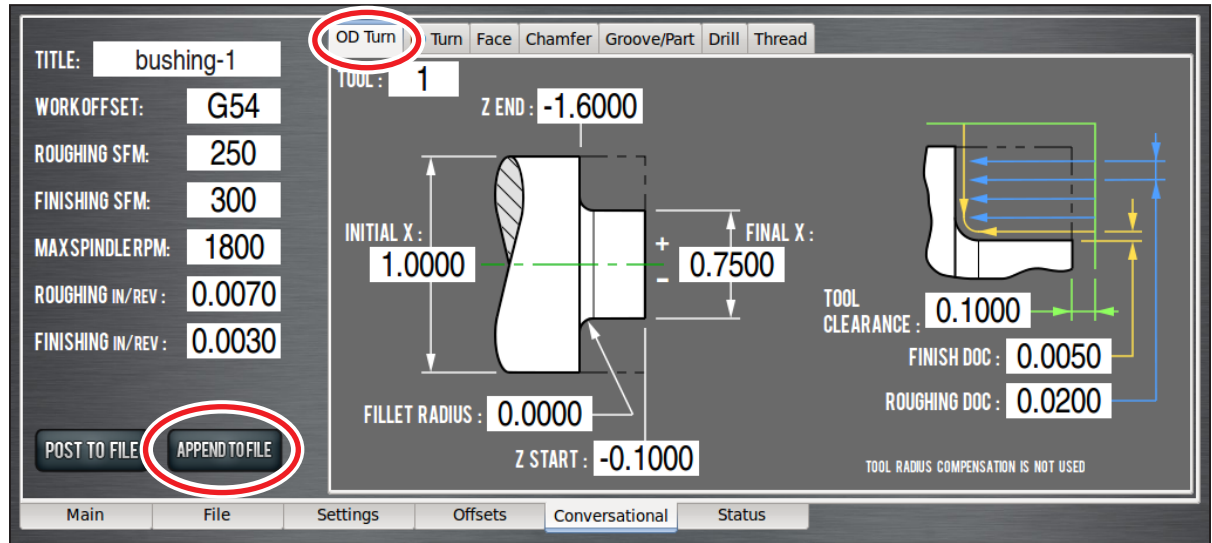

Figure 4.26
1. Click on *OD Turn* tab on the *Conversational* screen. Enter values shown in **Figure 4.26**.
2. Click *Append to File* (see **Figure 4.26**).